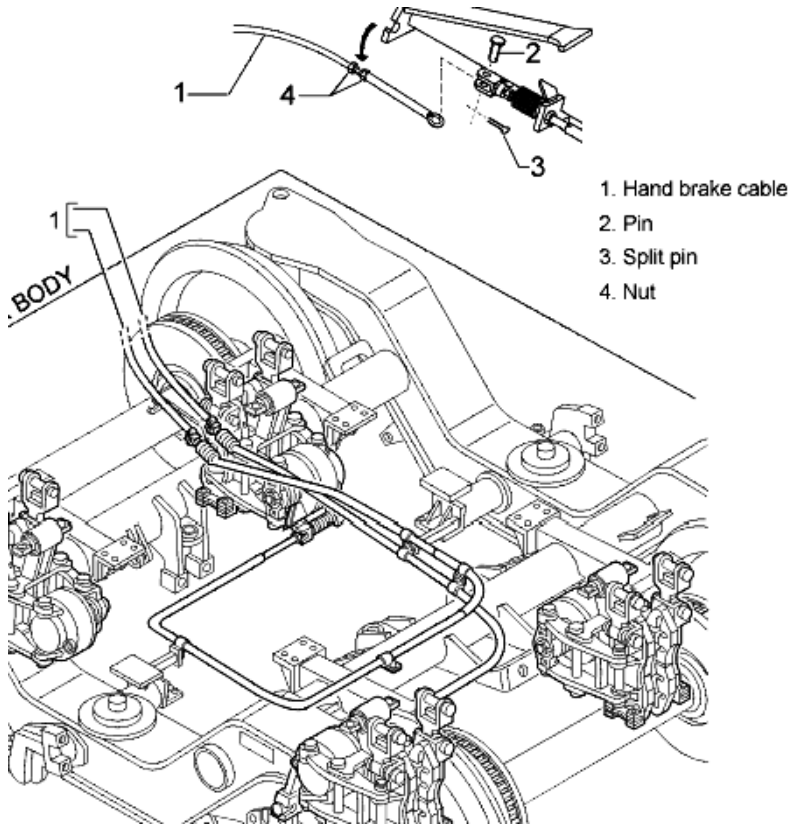

Fig.2.2 Disconnection of the hand brake cable
When working on bogie of Generator car it is necessary to disconnect the hand brake cables (1-) Fig. 2.2 - after releasing the hand brakes: extract the split pin (3) and the pin (2), then un-tighten the nuts (4) and remove the cables (1) from the frame support.